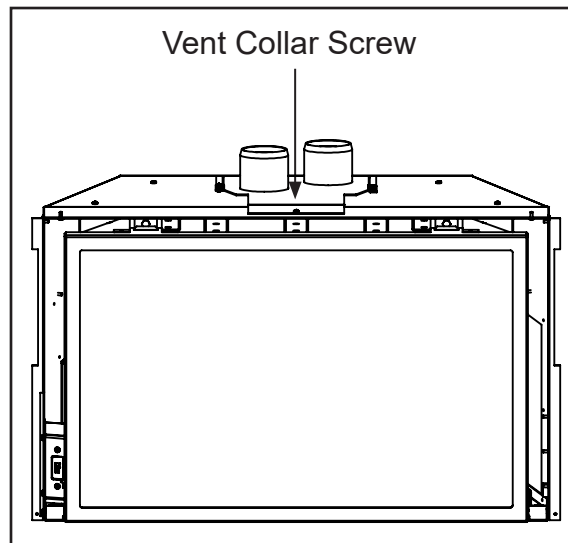

Figure 24: Vent Collar Plate Screw Location.
8. Apply a bead of stove cement sealant to the Ø3" (76mm) pipe of the exhaust vent terminal. Slide the flex liner onto the vent terminal and secure with three (3) sheet metal screws evenly spaced.
9. Place a bead of high temperature silicone on the intake collar of the vent terminal. Slide the Ø3" (76mm) flex intake liner over the collar, secure the flex liner with three (3) sheet metal screws evenly spaced. Secure the vent terminal to the chimney using adequate sealant, and according to local building codes.
10. If the fireplace opening is lower than 24" (610 mm), remove the vent collar plate from the top of the insert by unscrewing the 5/15" screw located on the center top of the stove above the door opening (see Figure 24). Slide the collar plate backwards. Properly secure the vent collar plate to the flexible vent pipe liner(s) previously installed in the chimney. Be careful not to over-stretch the liner(s).
11. Apply a bead of stove cement sealant to the top section of the Ø3" (76mm) exhaust vent collar plate. Slide the Ø3" (76mm) flex vent over the flue collar and secure with three (3) sheet metal screws evenly spaced.
12. Place a bead of high temperature silicone on the intake collar of the fireplace, slide the Ø3" (76mm) flex intake liner over the collar, secure the flex liner with three (3) sheet metal screws evenly spaced.